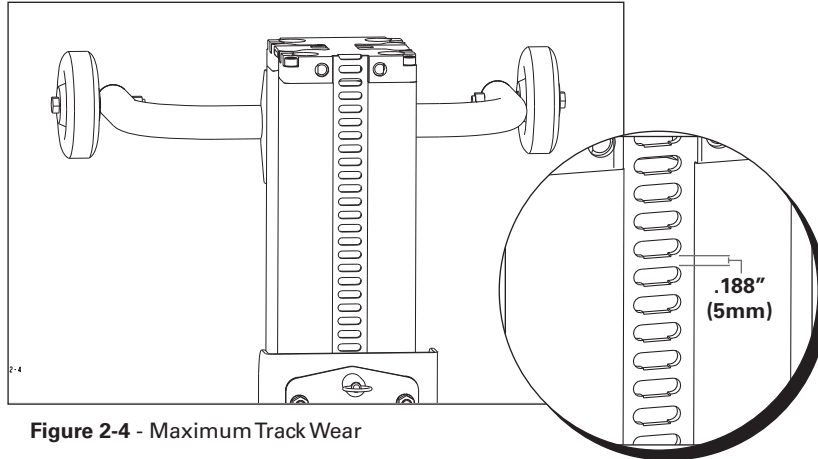

Figure 2-4 - Maximum Track Wear
7. **Track Sections** - Check that the teeth of all the track sections are not excessively worn (.188" (5mm) tooth remaining), bent, misshapen or missing. (See Figure 2.4)